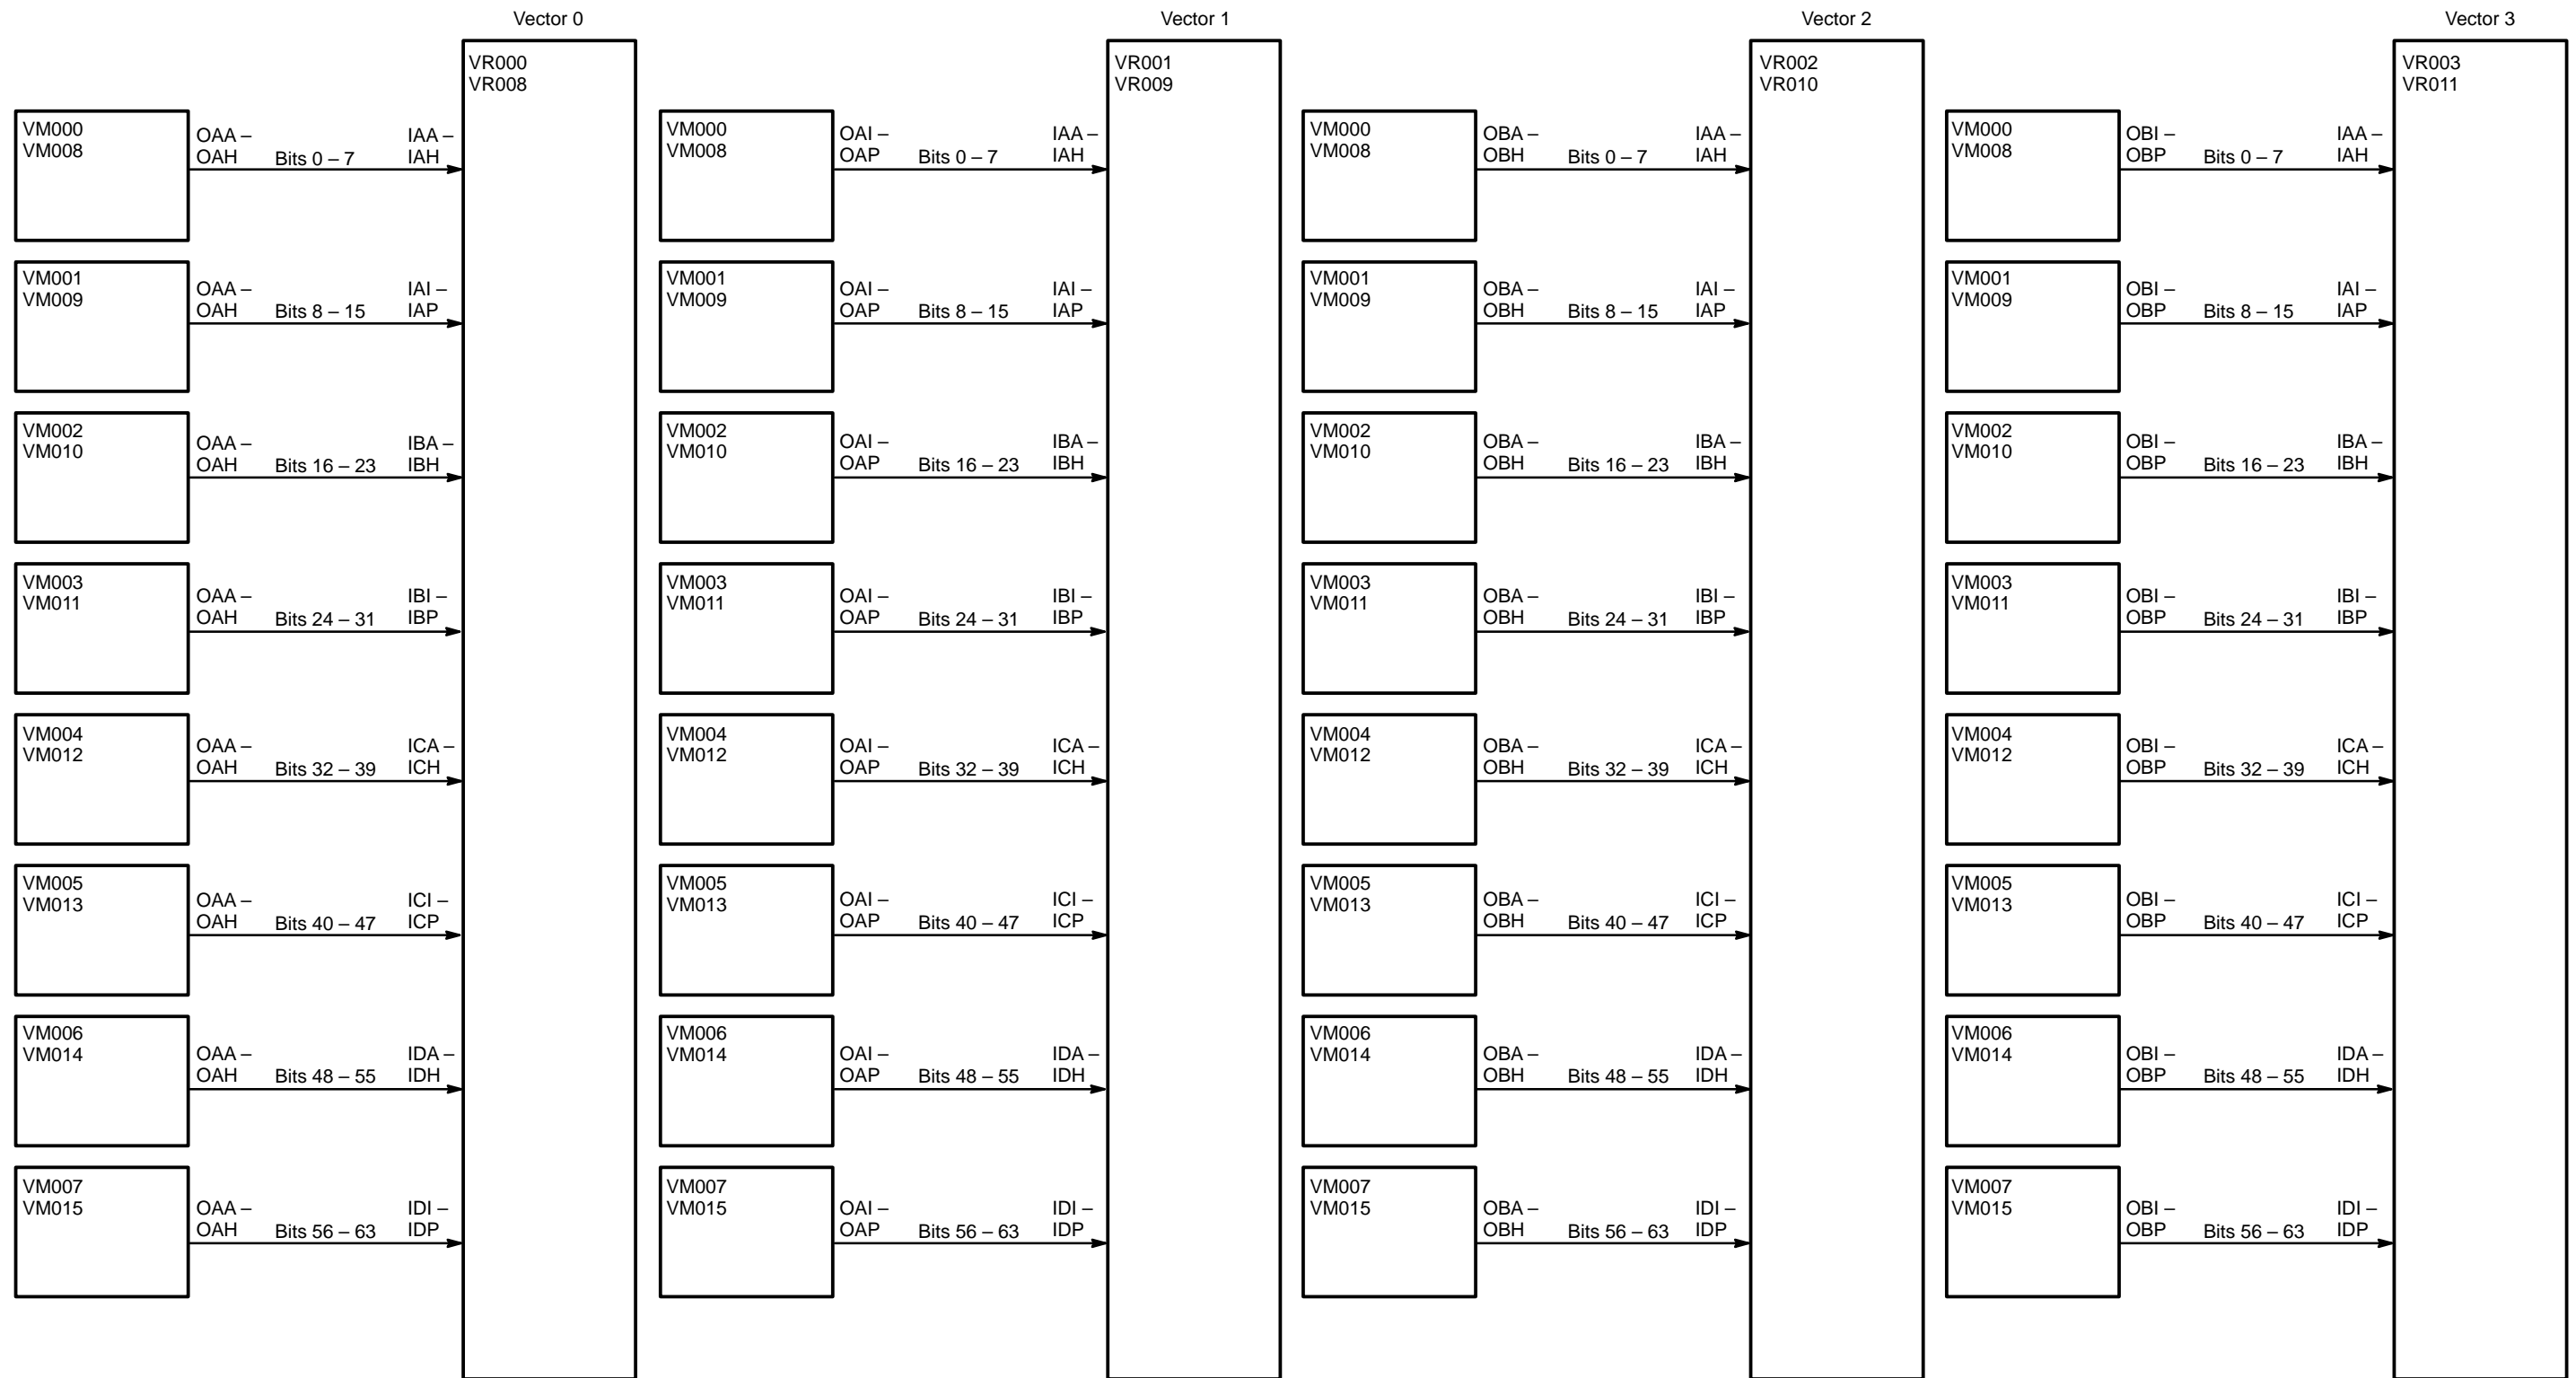

Figure 46. Vectors 0 through 3 Pipe 0/1 Write Data Path
- Figure 46 – memory data to vectors (even elements)